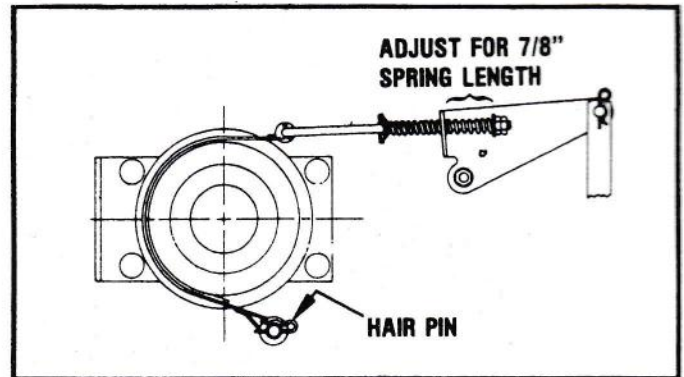

FIGURE 12
15. With the PTO disengaged, adjust the spring length to 7/8" on the brake rod. See Figure 12.